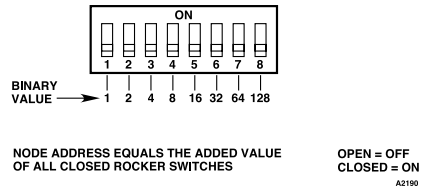

Figure 3-57—Address Switch for DCIO and Relay Module
*The address switches in the DCIO module and relay module appear slightly different than those in other devices. Refer to Figure 3-57.*